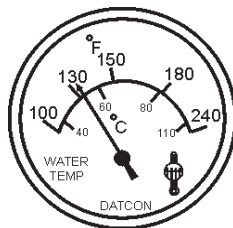

Figure 51. Coolant Temperature Gauge
16. The **coolant temperature gauge** (Figure 51) will indicate the coolant temperature. Under normal operating conditions the coolant temperature should be between 180~230°F (82~110 °C) **Green Zone**.